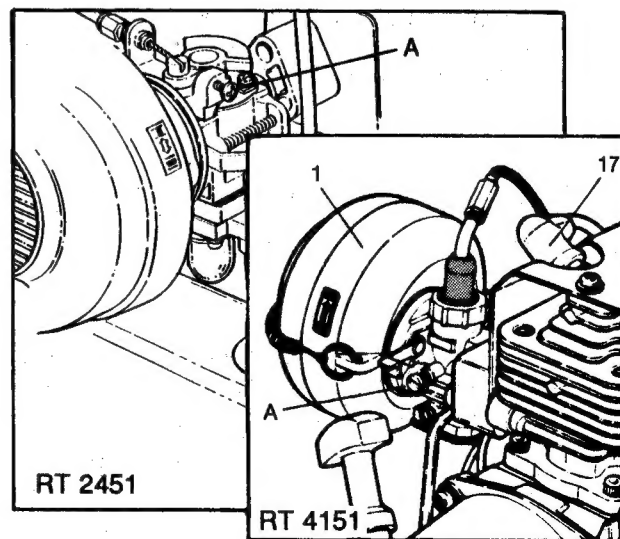

FIG. 13 - SERVICING CARBURETOR
If, after the AIR CLEANER (1), SPARK PLUG (17) and spark arrestor have been inspected/cleaned, the engine will not start, stalls at idle speed, or stalls during rapid acceleration, refer to FIG. 13 and take the following steps:
- 1-A. On the RT 2451, turn the idle screw ((A) FIG. 13) CLOCKWISE 1/8 turn (at a time) and restart the engine - continue this procedure until the engine idles properly.
- 1-B. On the RT 4151, it is possible that the idle mixture screw ((A) FIG. 13) needs to be adjusted if the engine starts, but stalls rather than continue to run at an idle speed. Turn the screw CLOCKWISE 1/8 turn (at a time) and restart engine - continue this procedure until the engine runs at an idle.
- 2-A. On the RT 2451, an alternate idle adjustment can be made by changing the TRAVEL length of the THROTTLE CABLE (21). The cable enters the rear of adjusting nut (B). Refer to FIG. 13-A and proceed as follows: